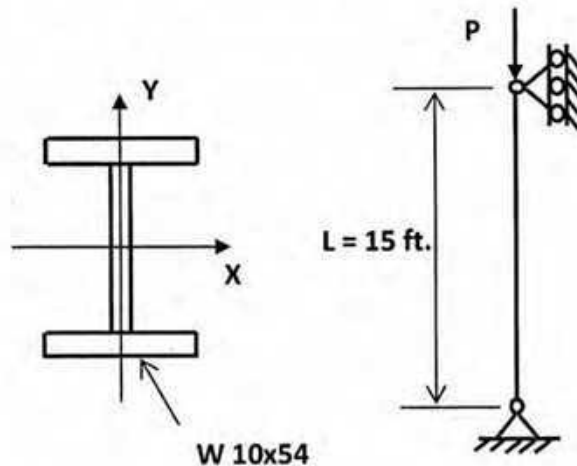

Fig. 4
4. A W10x54 section as shown in Fig.4 is used for a 15 ft. long column. The section has an area of 15.8 in^2 and a radius of gyration, $r_y = 2.56$ in. about the weak axis Y. If $K=1$ for both X and Y axes, calculate the allowable load P for the column using AISC/ASD method. Given: $F_y = 36$ ksi and $E = 29000$ ksi. 16 2/3